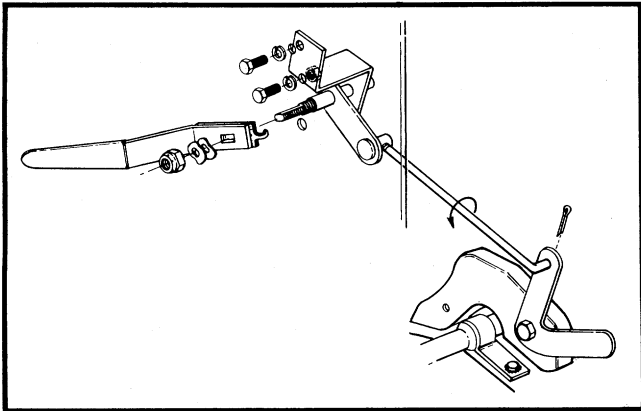

FIGURE 23. PTO HANDLE ADJUSTMENT
Step 4. Replace the cotter-pin. See Figure 23.